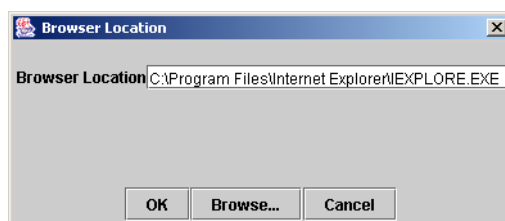

Figure 6-20. Browser Location Dialog Box
1. On the SANsurfer Control iX main window **Help** menu, click **Set Browser Location**. The **Browser Location** dialog box displays (see figure 6-20).